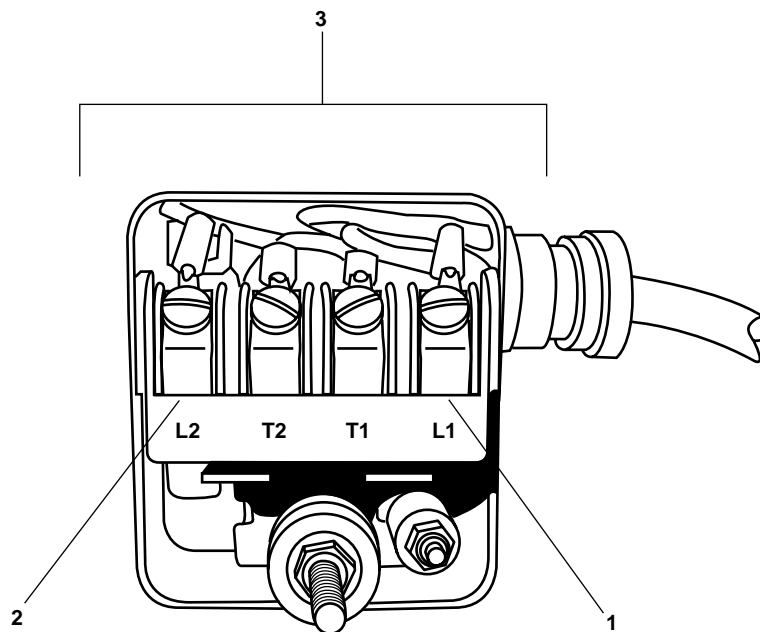

Figure 2. Pressure Switch
6. Use a multimeter to check for available voltage at the pressure switch wiring L1 (figure 2, item 1) and L2 (figure 2, item 2). If voltage is present ensure that the proper circuit breaker is set to OFF locked out and tagged out (FM 55-502). If no voltage is present, continue with procedure.
7. Label, disconnect, and remove L1 (figure 2, item 1) and L2 (figure 2, item 2), wiring from the pressure switch (figure 2, item 3).
4. Connect the wiring in the pressure switch (figure 2, item 3), L1 (figure 2, item 1) and L2 (figure 2, item 2), using the labels from step 7 of Removal as a guide. Discard the labels.